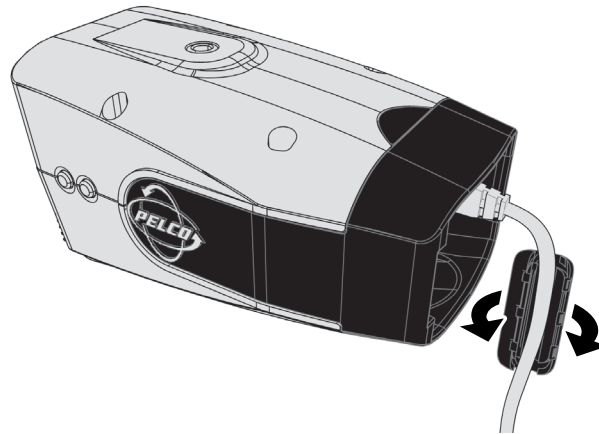

Figure 5. Ferrite Installation
4. For FCC Class B installations, attach the supplied ferrite to the network cable (refer to Figure 5.) The ferrite should be installed on the cable approximately 1 inch (2.54 cm) from the camera's RJ-45 network port.